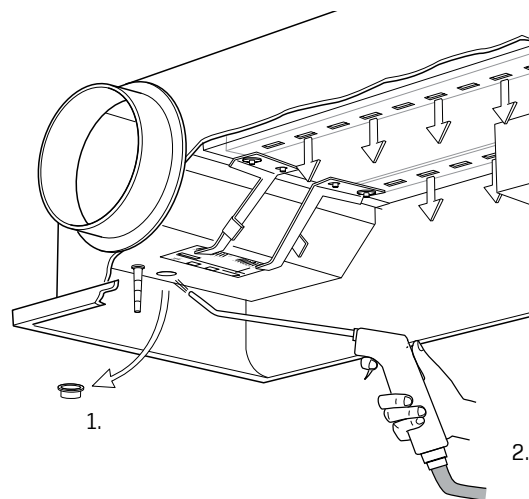

FIGURE 13
- 4) Dust cap may be removed for cleaning air entry section. (See **FIGURE 13**)